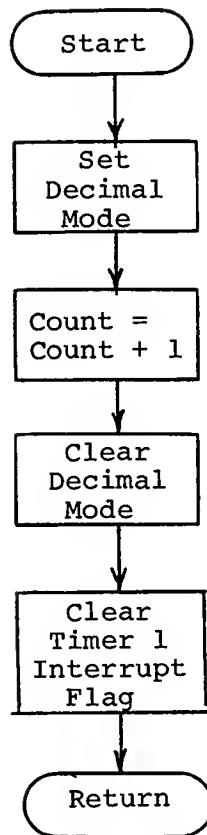

Figure 16-1. Flowchart for BCD-Based Interrupt Service Routine
1. You are to develop an enhanced version of the elapsed-time-until-Reset program that was introduced in Experiment 14 and modified (for interrupts) in Experiment 15. The program here is similar to the one in Experiment 15, except that the time count in locations \$20 and \$21 is to be maintained in BCD form, rather than decimal form. This stipulation will not affect the main program, but it will require you to develop a new interrupt service routine in which the time count is updated with add (ADC) operations--in Decimal Mode--instead of with increment (INC) operations. Figure 16-1 is a flowchart for the BCD-based interrupt service routine.